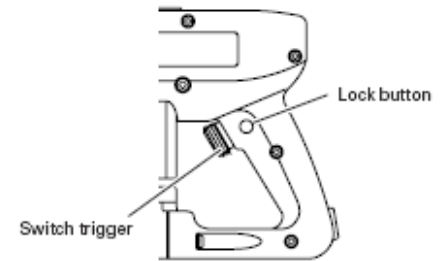

Fig. 3
- For the sake of safe operation, this unit is designed so that the switch cannot be inadvertently switched on. When switching the tool on, press the lock button and then pull the switch trigger (Fig. 3). If the switch trigger is pulled without pressing the lock button first, the switch may be damaged. Please use care when switching the tool on.